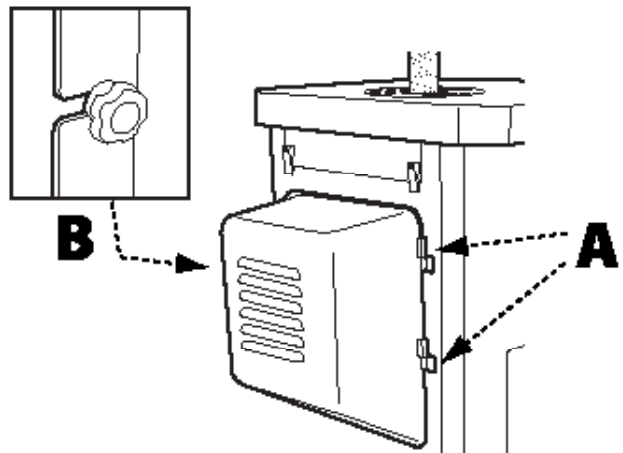

FIGURE 1
See Figure 1
1. Unlock the lock knob on the motor cover (Figure 1 on page #) and open the cover.
2. Locate the 90° positive stop collar (A) on the long threaded rod (B) that runs front to back on the left side of the machine.